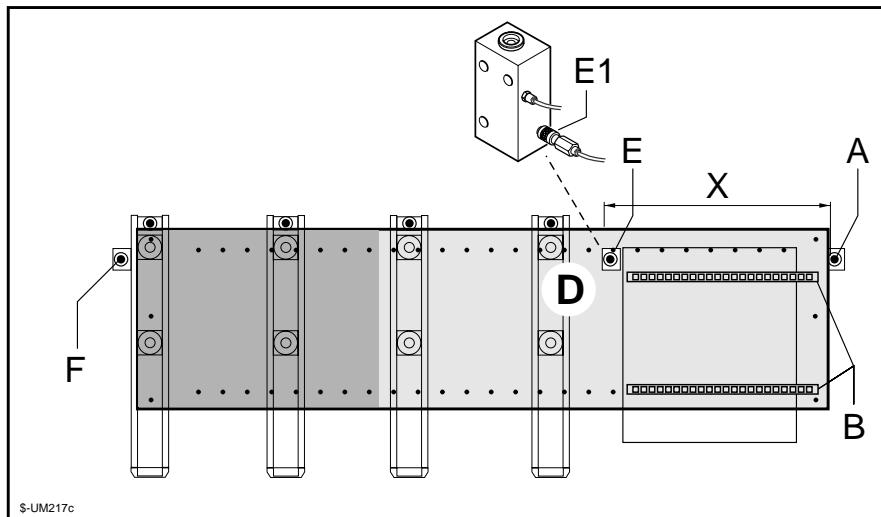

Fig. 4.11
- write down another program (still on the field "D") including the types of machining that could not be performed with the first program, but replacing its origin with a value equal to the distance "X" between the stop E and the stop A (see fig.4.11)
- use the pneumatic cock E1 to disable the stop E (fig.4.11)